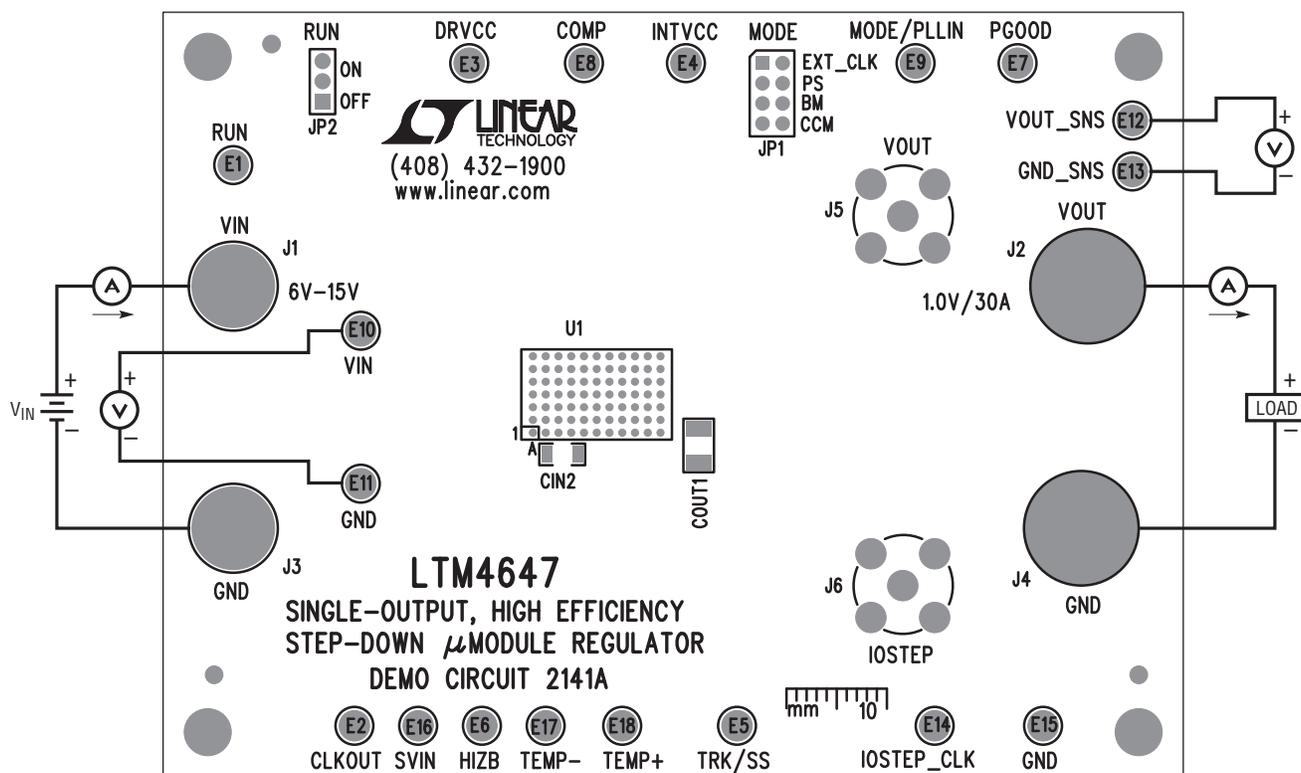

Figure 1. Measurement Set-Up of DC2141A
Demonstration circuit 2141A is an easy way to evaluate the performance of the LTM4647EY. Please refer to Figure 1 for proper measurement equipment setup and follow the procedure below:
2. With power off, connect the input power supply, load and meters as shown in Figure 1. Preset the load to 0A and V_{IN} supply to 12V.